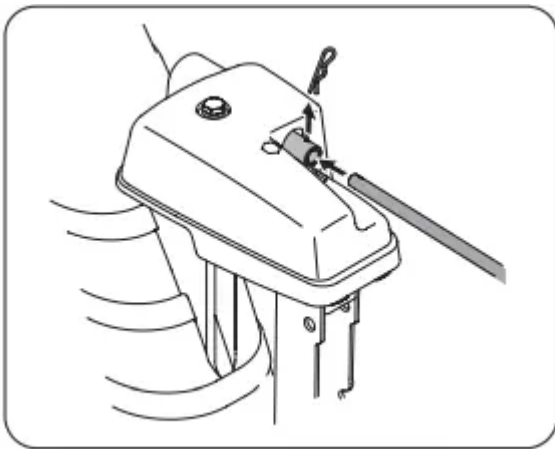

Figure 17
- Remove hairpin clip (a) from rear of chute control head. See Figure 17.
- Insert chute control rod (b) into rear of chute control head. See Figure 17. Secure chute control rod to chute control assembly with hairpin clip removed in Step 5.